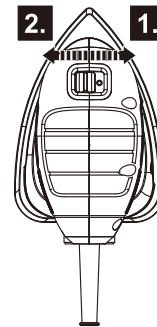

Fig. 6
- > Slide the on/off switch (1) right (as seen from the user's position) to switch the product on (expose the "I" symbol). (Fig. 6)
- > Slide the on/off switch (1) left (as seen from the user's position) to switch the product off (expose the "O" symbol). (Fig. 6)